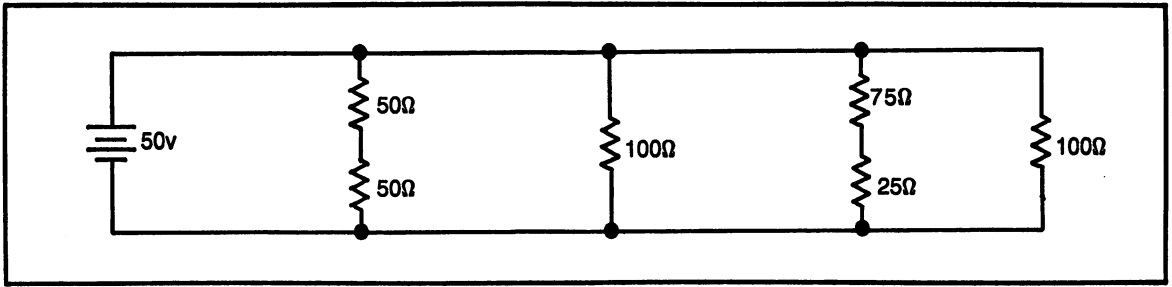

Fig. Ex1-5. Problem 49.
- (49) Use the circuit in Fig. Ex1-5 to find total current.